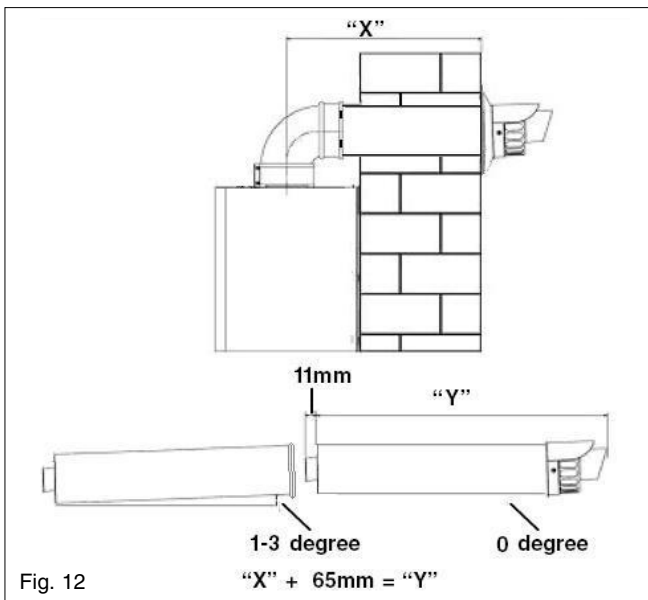

Fig. 12
Using the template provided (A), mark and drill a 125mm hole for the passage of the flue pipe. The hole should be drilled to ensure any condense fluid that forms, is allowed to drain back to the appliance (see fig. 12). The fixing holes for the wall-mounting bracket should now be drilled and plugged, an appropriate type and quantity of fixing should be used to ensure that the bracket is mounted securely. Once the bracket has been secured to the wall, mount the appliance onto the bracket.
Carefully measure the distance from the centre of the appliance flue outlet to the edge of the finished outside wall (dimension X). Add 65mm to dimension X to give you Dimension Y (see fig 12). Measure dimension Y from the terminal end of the concentric flue pipe and cut off the excess ensuring any burrs are removed. Pass the concentric flue pipe through the previously drilled hole. Fit the flue bend to the boiler flue outlet and insert the concentric flue pipe into the flue bend ensuring the correct seal is made. Using the clamp, gasket, and screws supplied, secure the flue bend to the appliance flue spigot.